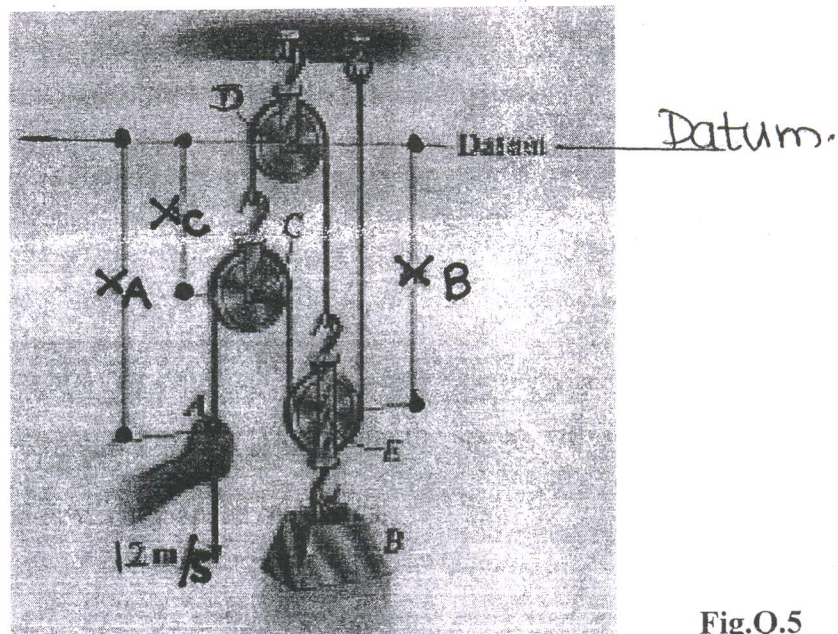

Fig. Q.5
- Q.5 A system of pulleys is shown in Fig. Q.5. Determine the speed with which block B rises, if the end of the cord at A is pulled down at a speed of 12 m/s .